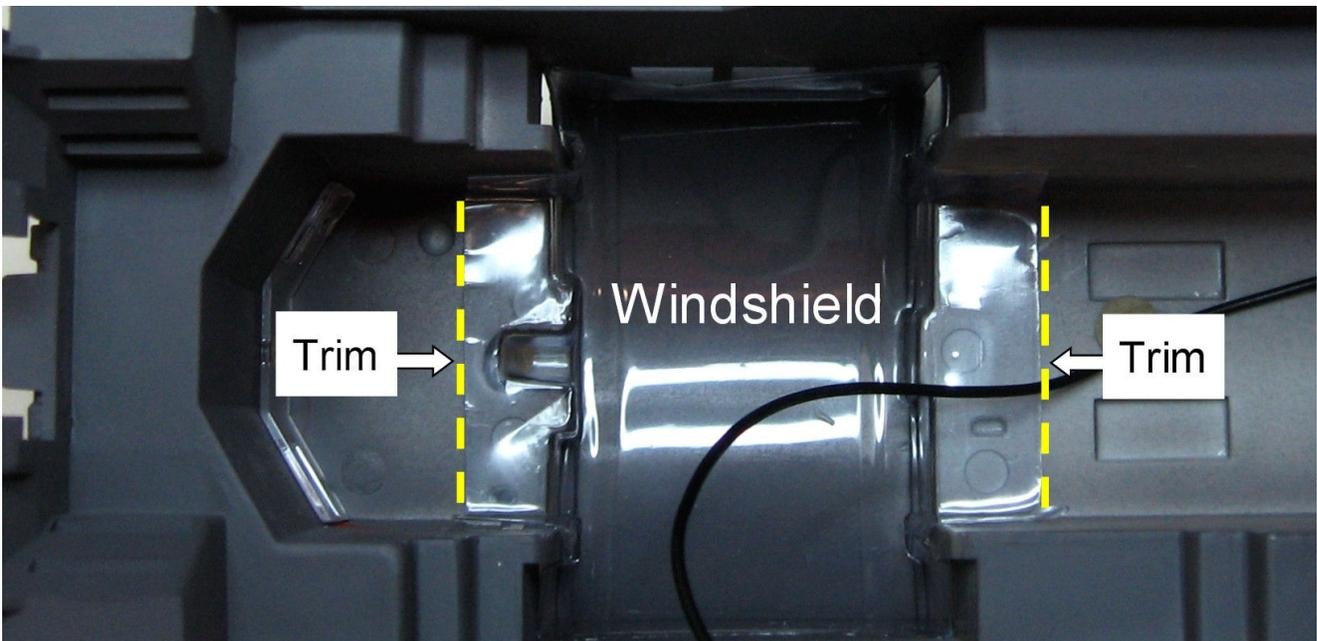

Figure 6 – Windshield trimmed and re-installed
1. With no optional Sound Commander 2, the windshield may be re-installed as there is no need to worry about it inhibiting sound from exiting the shell. If re-installing the windshield, first refer to Figure 6 and trim the cross member portions, so they don't interfere with the newly installed electronics and wiring. After trimming, verify the windshield orientation is the same as when it was removed and then firmly press it back in place.